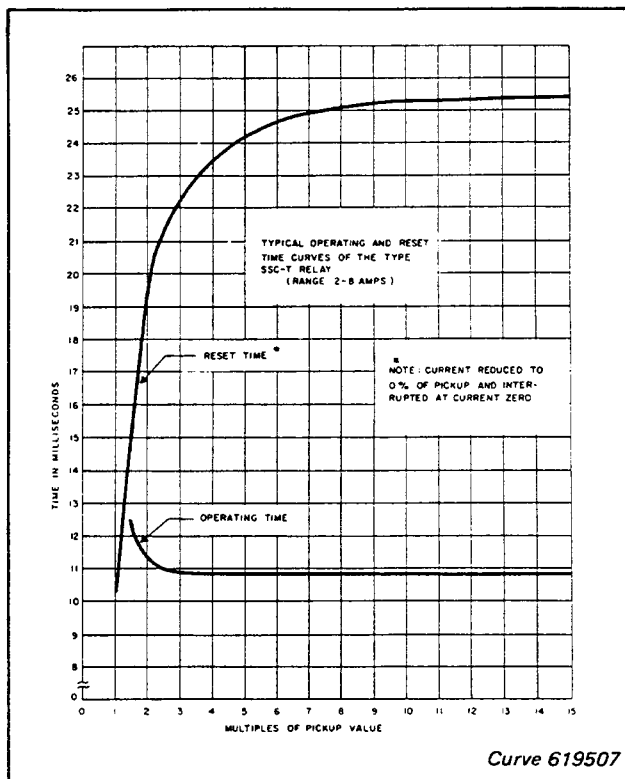

Fig. 10. Typical Operating and Reset Time Curves of the Type SSC-T Relay
- For 2 to 15 times pickup setting value (Fig. 10)